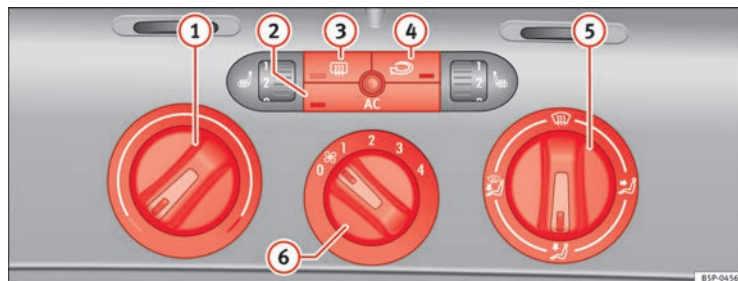

Fig. 129 On the dash panel: Climatic controls
- Turn the temperature selector ⇒ Fig. 129 ① clockwise to select the required temperature.